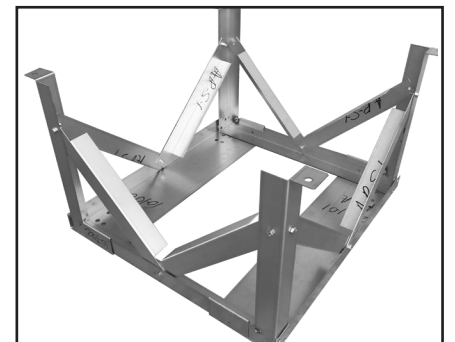

Figure 4
4. And continue to fasten bolts and nuts at each hole, as shown in Figure 4.